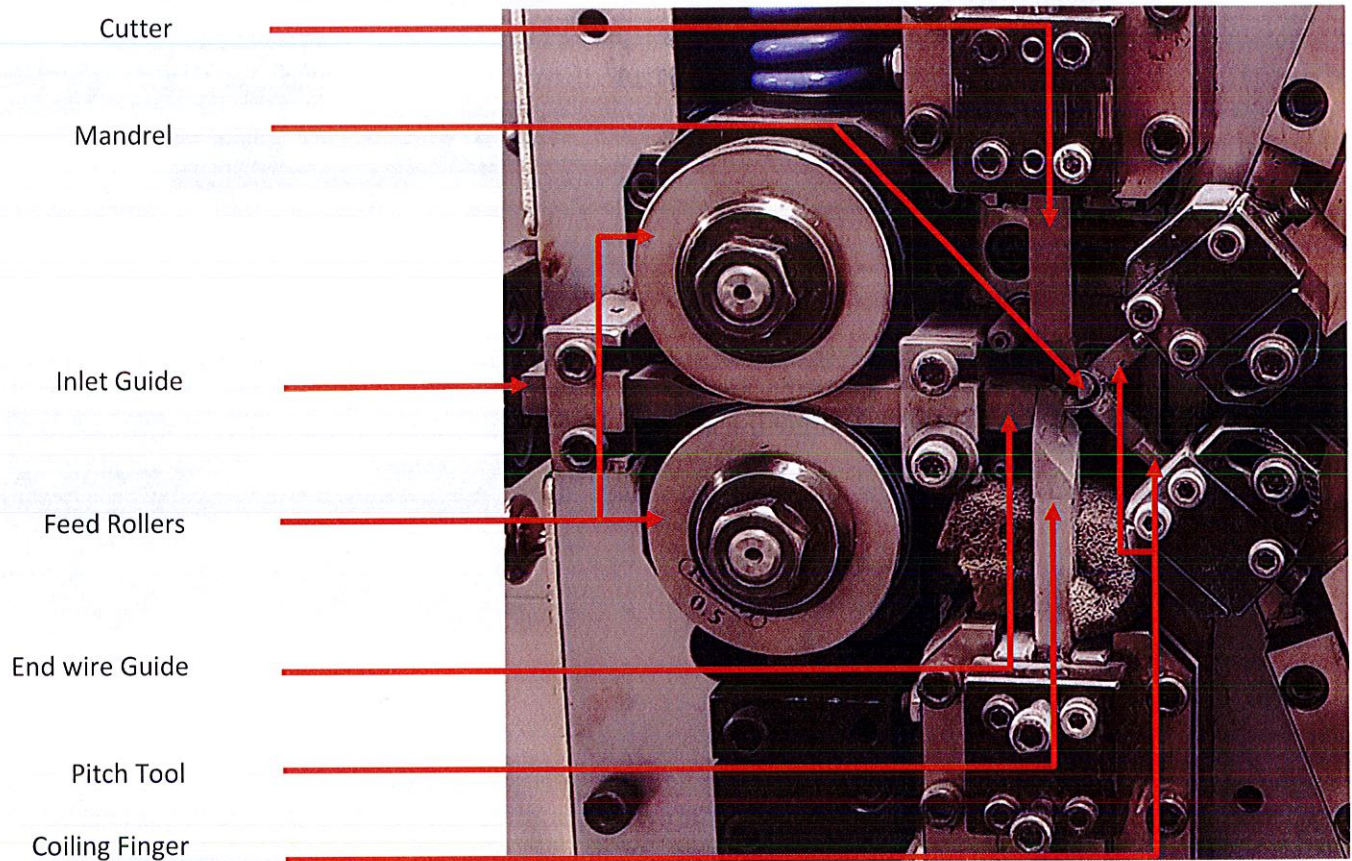

Figure 16: Machine Face of installed parts
6.12. Figure 16 shows the machine face with a description of where the parts should be installed.